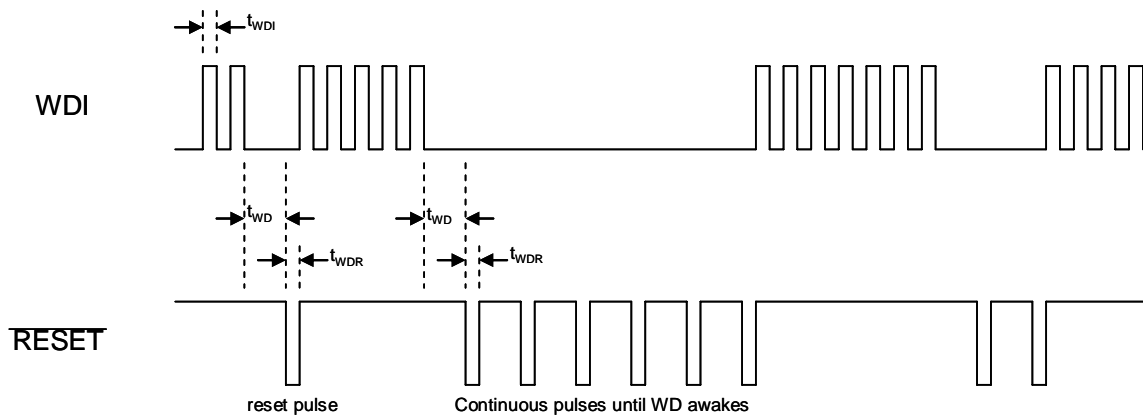

Figure 12. Standard Watchdog – Pulsing Reset Until Watchdog Awakes.
provides a Standard or Advance Watchdog monitoring function. In the defaulted Standard Watchdog mode, if WDI remains either high or low for longer than the timeout period, a reset pulse is generated in an attempt to allow the system processor to re-establish the WDI signal. The reset pulses continue indefinitely until a valid watchdog signal, a rising or falling edge signal at the WDI, is received. The internal watchdog timer clears whenever reset is asserted. The Standard WDI and  $\overline{\text{RESET}}$  timing diagrams are shown in Figure 12.
5. When the external monitoring processor cannot issue the necessary WDI signal, Figures 12 and 13.